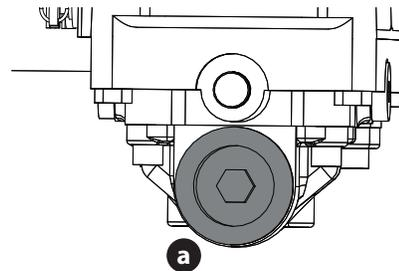

Figure 37
2. Place a suitable container under the drain plug (a) on the transmission. Remove the drain plug (a) and allow the transmission oil to drain (Figure 37).